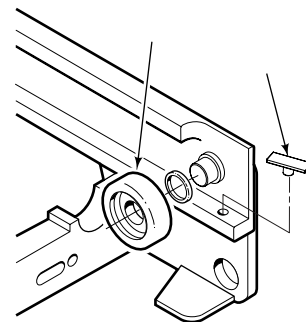

Figure 44. Upright Inspection .
1. Inspect the load rollers for excessive wear or damage. Rollers with visible flat spots or cracks should be replaced. See Figure 44.